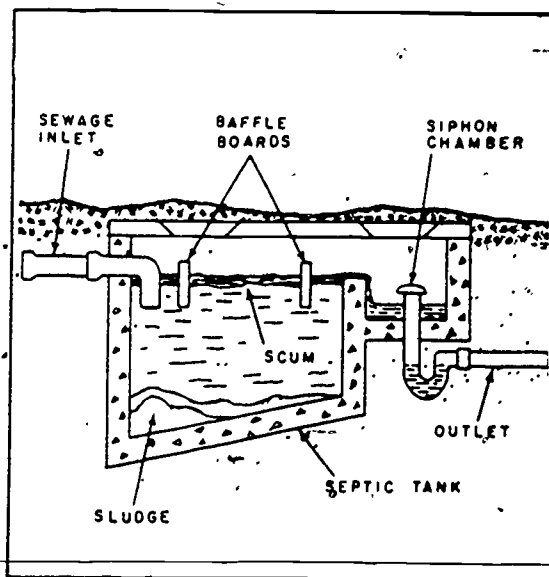

Figure 1-18 Diagram of septic tank
**Construction of septic tank.** The secret of constructing a septic tank that will give satisfactory service is to select a design that provides a means of holding the bacteria scum in the tank in an undisturbed state. Septic tanks may be built with one or more compartments; but single compartment tanks, provided they are large enough to accommodate the volume of sewage, operate as efficiently as the others and are less expensive to construct. A septic tank that is simple in design and effective in operation is illustrated in figure 1-18. The siphon chamber is not absolutely necessary for the operation of the septic tank for individual disposal systems; but the installation of a siphon chamber insures a positive flow of liquid from the chamber, and the chamber should be used in multiple unit disposal systems. The baffle boards are usually made of 2-inch oak planks and run entirely across the tank. They are suspended from hangers and set to extend several inches below the surface of the sewage. One board should be located 10 inches from the inlet end of the tank and the other about 4 inches from the outlet partition. Baffle boards reduce the agitation of the layer of scum on the surface of the tank by slowing the water currents through the tank, which are caused by the splashing of solids from the inlet.
The bell siphon, located in the siphon chamber (see fig. 1-18) operates on a principle similar to placing a bottle, neck first, into a pail of water. As you push the bottle neck further below the surface, no water can enter the bottle, because the air is trapped inside.